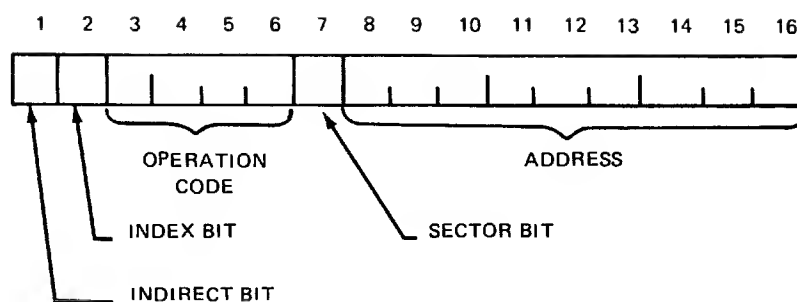

Figure 2-6. Memory Reference Instructions
There are four classes of instructions; Memory Reference Instructions (MR), Shift Instructions (SH), Input/Output Instructions (IO), and Generic Instructions (G). Figures 2-6 through 2-9 show the bit format of each class. Bits 3 through 6 of the instruction word identify the type of instruction as shown in Table 2-1.
*Memory Reference.*—Figure 2-6 shows the format of memory reference instructions. Bit 1, the indirect bit, = 1 whenever an indirect memory reference is specified. Bit 2, the index bit, = 1 whenever indexing is specified as part of address formation. The operation code bits allow 14 different memory reference instructions to be specified. The other two configurations of these four bits escape to other format interpretations. (See Table 2-1.)